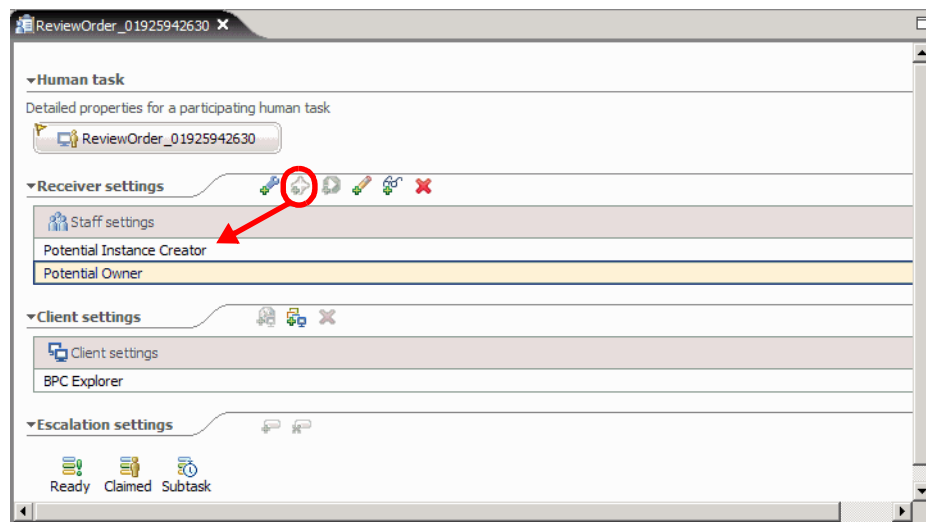

Figure 11-18 Human task configuration
- ▶ Open the *ReviewOrder* task (Figure 11-18):